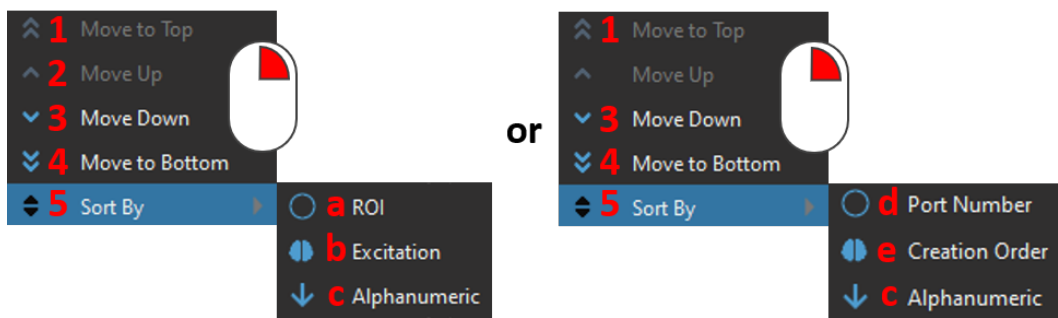

Figure 15.43: Graph View, Arrange graphs order
The order of individual graphs can be modified (within the channel types) by *right clicking* one of the graphs in the **Graph View**. This opens a small pop-up menu (Fig. 15.43), that includes the following options:
1. The **Move to Top** option (Fig. 15.43, 1) sets the selected graph as the first one of its channel type within **Graph View**.
2. The **Move Up** option (Fig. 15.43, 2) shifts the selected graph towards the top by one graph, but only within its channel type.
3. The **Move Down** option (Fig. 15.43, 3) shifts the selected graph towards the bottom by one graph, but only within its channel type.
4. The **Move to Bottom** option (Fig. 15.43, 4) sets the selected graph as the last one of its channel type within **Graph View**.
5. The **Sort By** option (Fig. 15.43, 5) rearranges the graph order based on:
- The **ROI ID** option (Fig. 15.43, a) such that the first created ROI will be on top and the last created will be on the bottom.
- The **Excitation** option (Fig. 15.43, b) such that all channel corresponding to the same excitation (for example Isosbestic, 470, 560) will be grouped together in their order of creation.
- The **Alphanumeric** option (Fig. 15.43, c) such that the **UserName** of each channel will be ordered alphabetically.
- The **Port Number** option (Fig. 15.43, d), set a chronological order within each channel type (e.g AIN01, AIN02, AIN03, etc.).
- The **Creation Order** option (Fig. 15.43, e) such that the first created channel will be on top and the last created channel will be on the bottom.